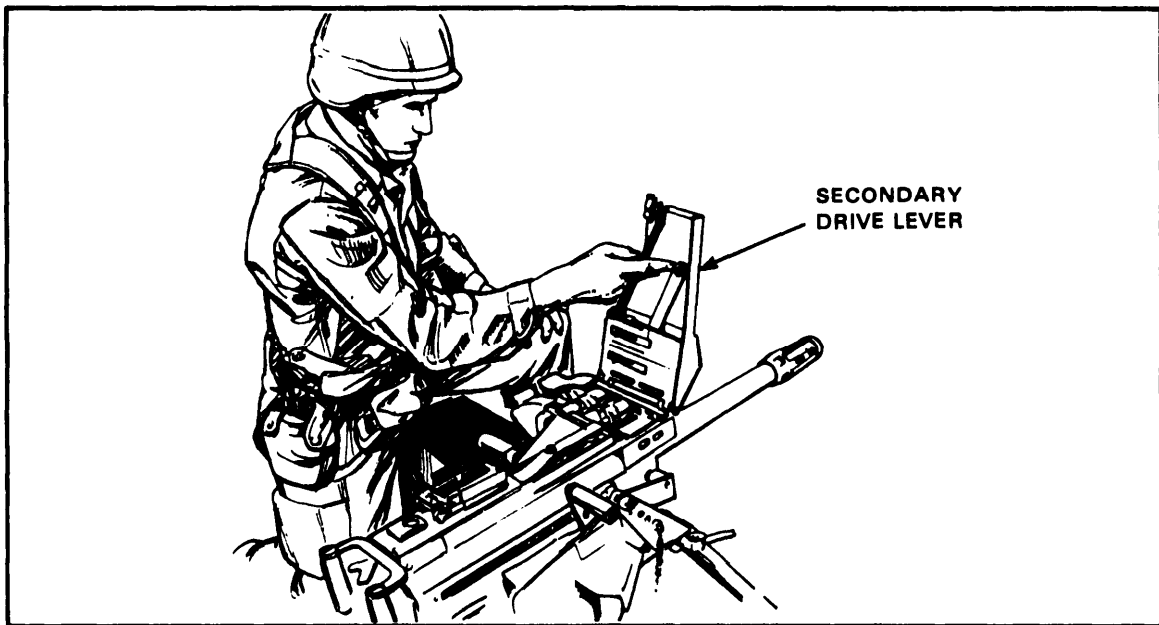

Figure 2-23. Positioning of feed slide assembly.
(2) Push the round across the secondary feed pawl. To move the feed slide assembly to the left (Figure 2-23, push the secondary drive lever to the right. Close the cover.